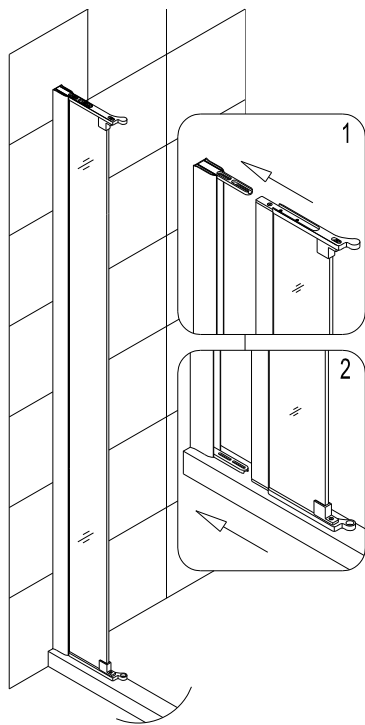

Fig 7
7. Push the stationary glass assembly into the groove of the wall profile for stationary glass (1). See Fig 7 for details.